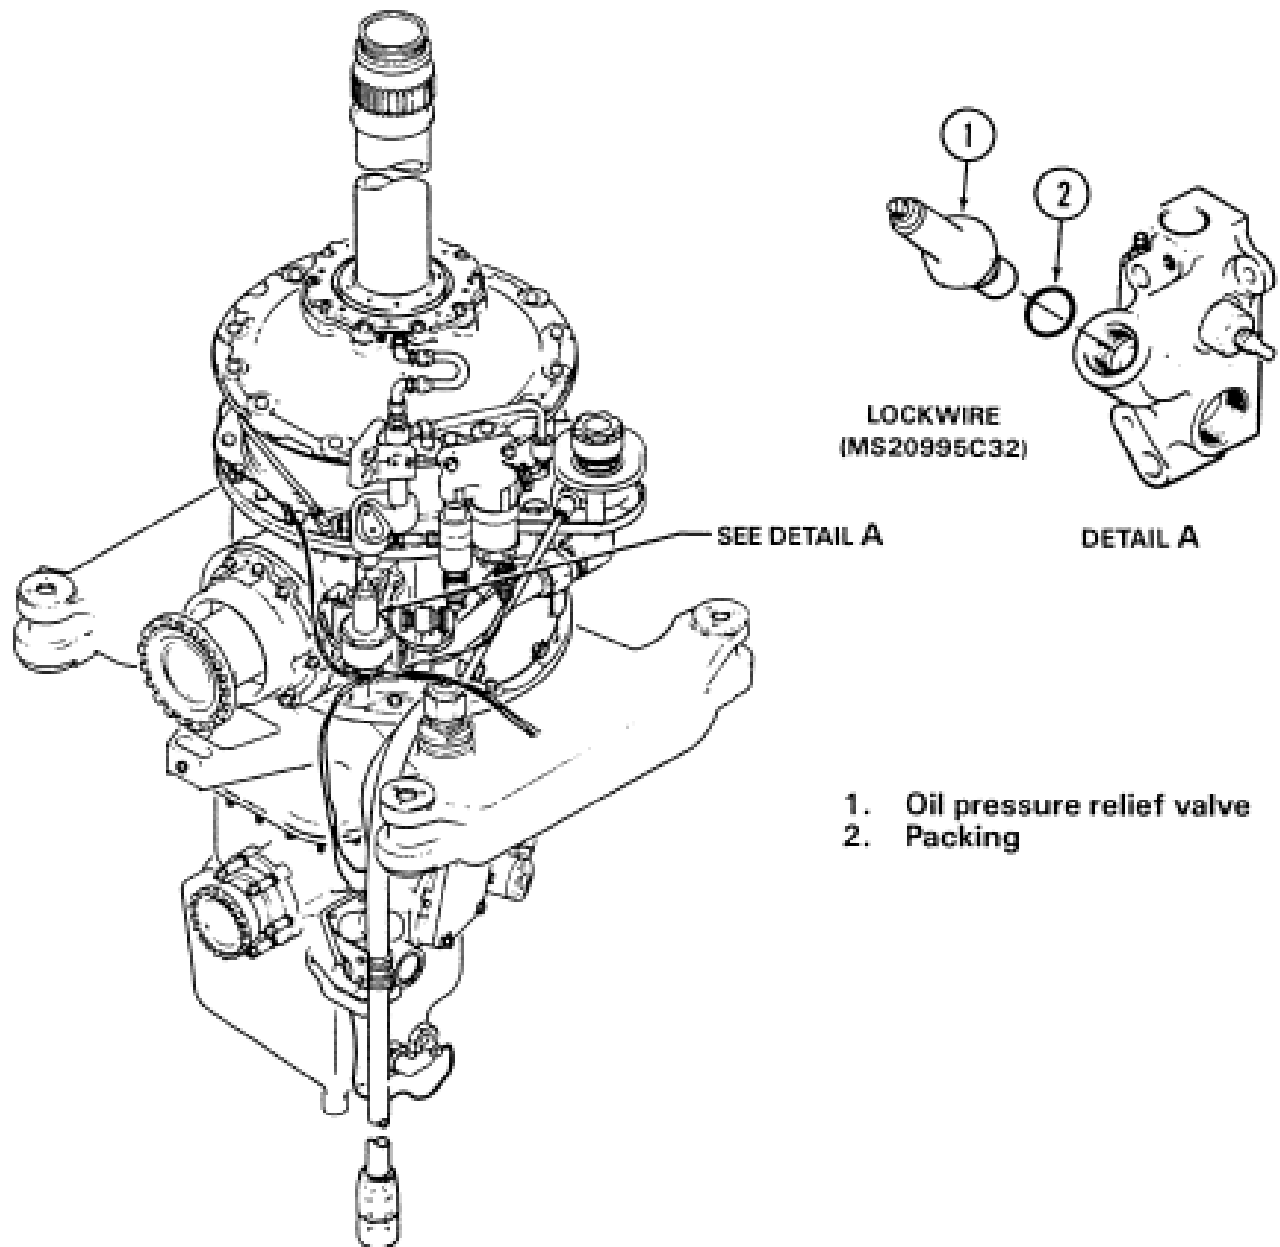

Figure 63-14. Oil Pressure Relief Valve
63.5.2.1.1 Remove lockwire. Use wrench on hexagon shoulder of oil pressure relief valve (1, Figure 63-14) body to loosen and remove valve assembly, with packing (2).
63.5.2.2.1 Verify threads of oil pressure relief valve (1, Figure 63-14) are clean and undamaged. Lubricate threads and packing (2) with transmission oil, and place packing on valve.
63.5.2.3.1 When required, adjust oil pressure relief valve (1, Figure 63-14).